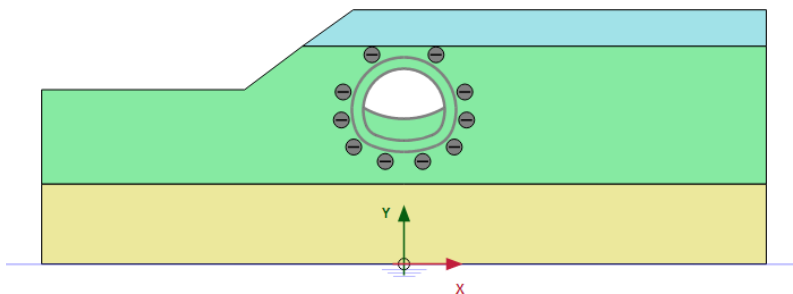

Figure 7.6 Configuration of Phase 1
- In the *Staged construction* mode deactivate the upper cluster in the tunnel. Do NOT activate the tunnel lining. The model for Phase 1 is displayed in Figure 7.6.